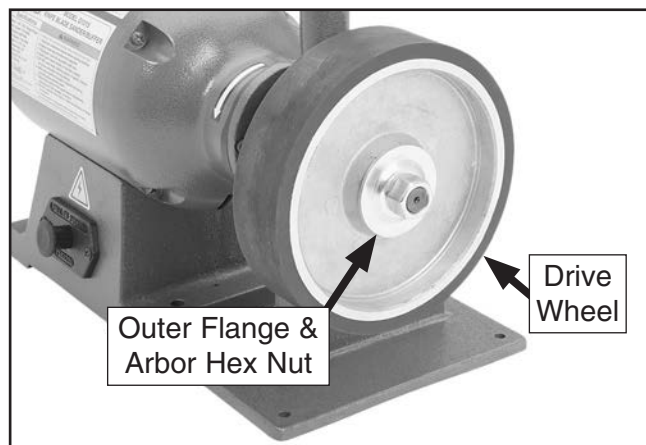

Figure 13. Drive wheel installed.
- Slide the drive wheel onto the right-hand arbor with a drive wheel flange ($\frac{3}{4}$ " center bore) on each side, then secure it in place with the remaining $\frac{3}{4}$ "-16 arbor hex nut (see **Figure 13**).